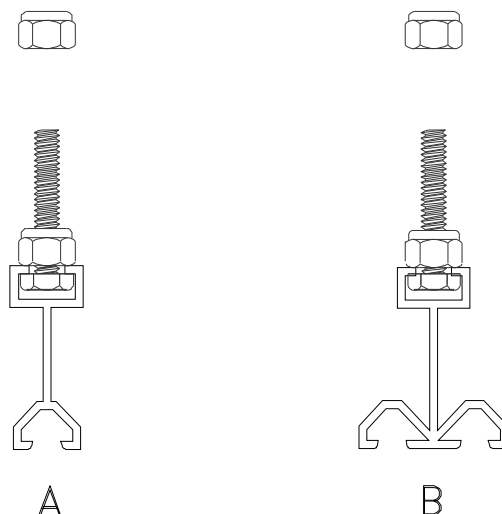

Figure 8
**STEP 12.** Using the lock nuts provided by the factory, fasten each centering bar bolt into position along the subchannel (see Figure 8).